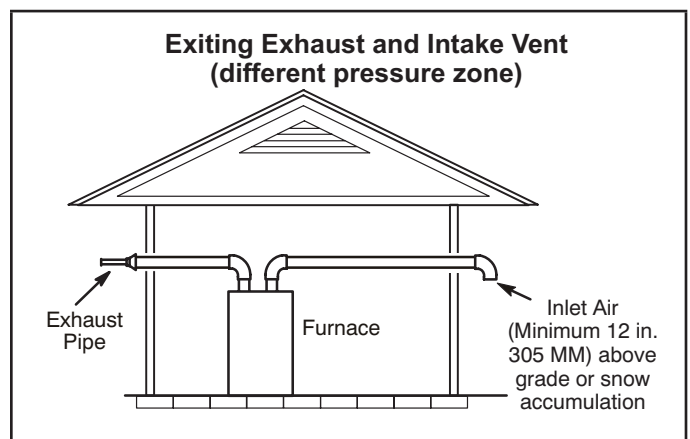
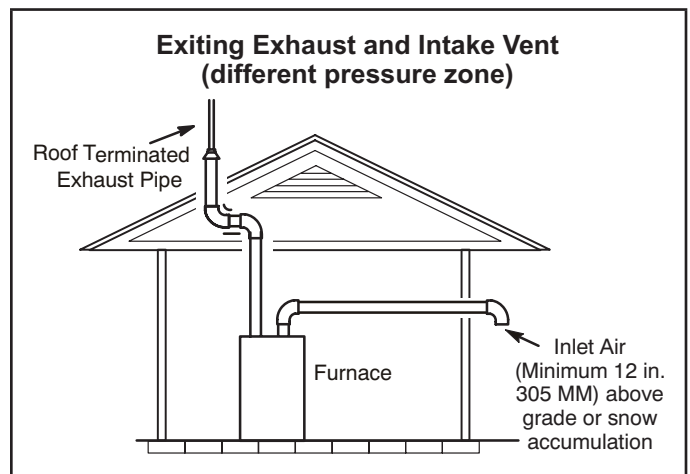

Figure 32
Figure 33
- 1 - Intake and exhaust terminations are not required to be in the same pressure zone. You may exit the intake on one side of the structure and the exhaust on another side (Figure 32). You may exit the exhaust out the roof and the intake out the side of the structure (Figure 33).